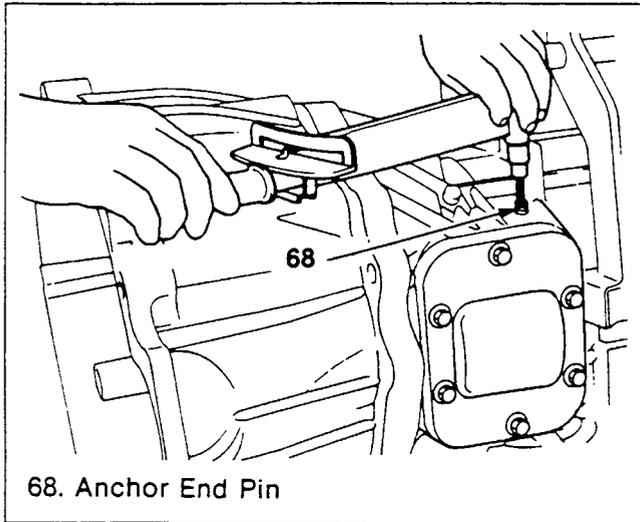

Figure 292. Brake Band Adjustment (1)
(Figures 292, 293 and 294)
2. Loosen the lock nuts and fasten the anchor end pin (figure 292).